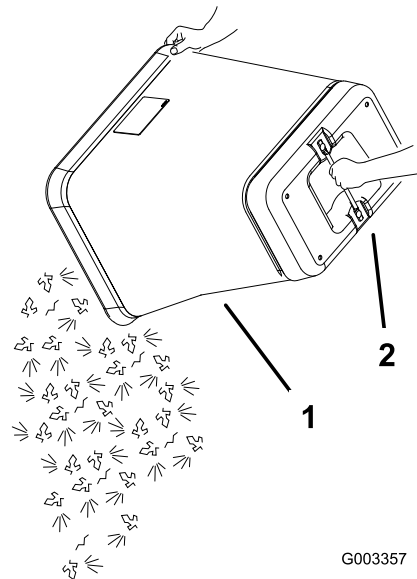

Figure 25
6. Grab the handle on the bottom of the bag and tip it over to empty the bag (Figure 25).